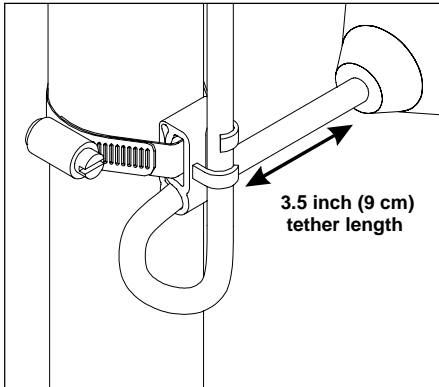

FIGURE 2 -
4. Place the cord into the clamp as shown in **Figure 2**.
5. Locate the clamp at the desired activation level and secure the clamp to the discharge pipe as shown in **Figure 2**.